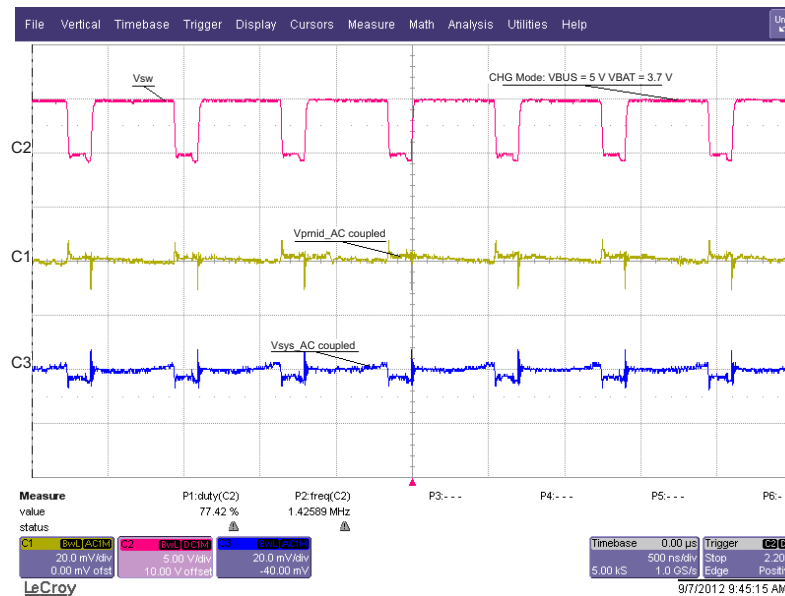

Figure 4. CHG Mode Ripple and Duty Cycle: V_{BUS} = 5 V, V_{BAT} = 3.7 V
2.3.2.5 Verify Scope Measurements (See Figure 4 – 500 ns/div)